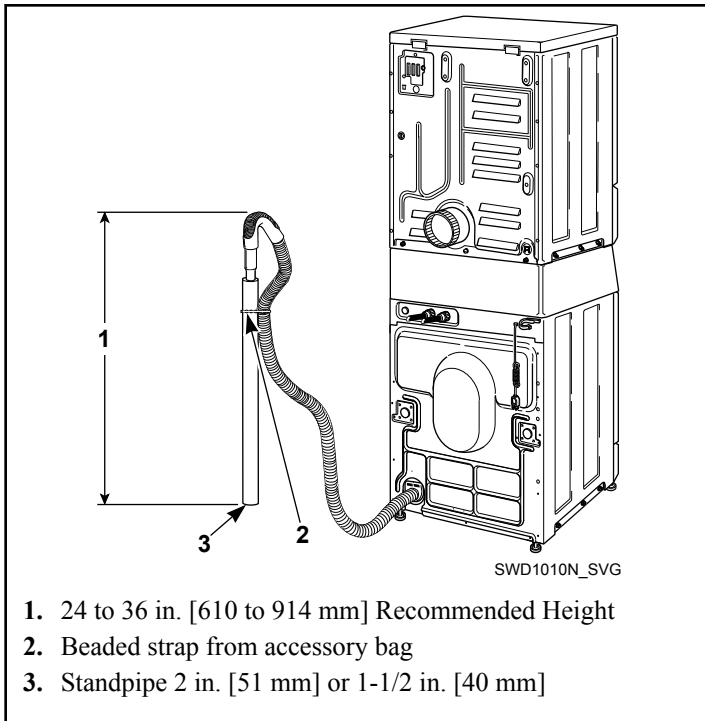

Figure 8
- Remove the beaded tie-down strap from accessories bag and place around standpipe and drain hose and tighten strap to hold hose to standpipe. Refer to *Figure 8* . This will prevent the drain hose from dislodging from drain receptacle during use.